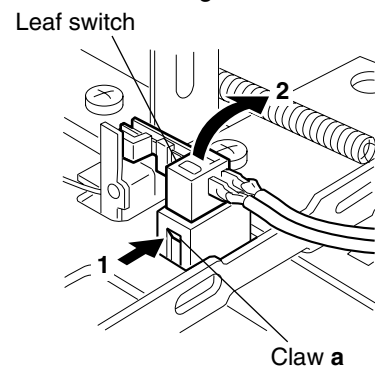

Fig.3
■ Removing the leaf switch (See Fig.3.)